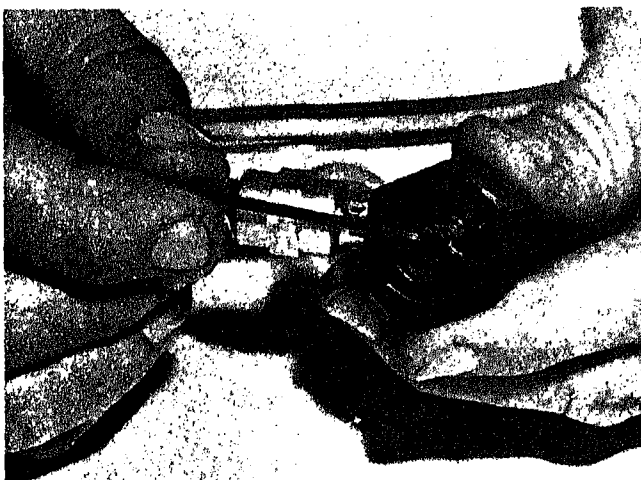

Fig. 6-1-68. Installing restrictor orifice
1. Remove master injector ST-768 from test stand after calibrating test stand. Install correct restrict orifice in cup seat, see Table 6-1-9, Fig. 6-1-68, and tighten to 6 inch pounds.